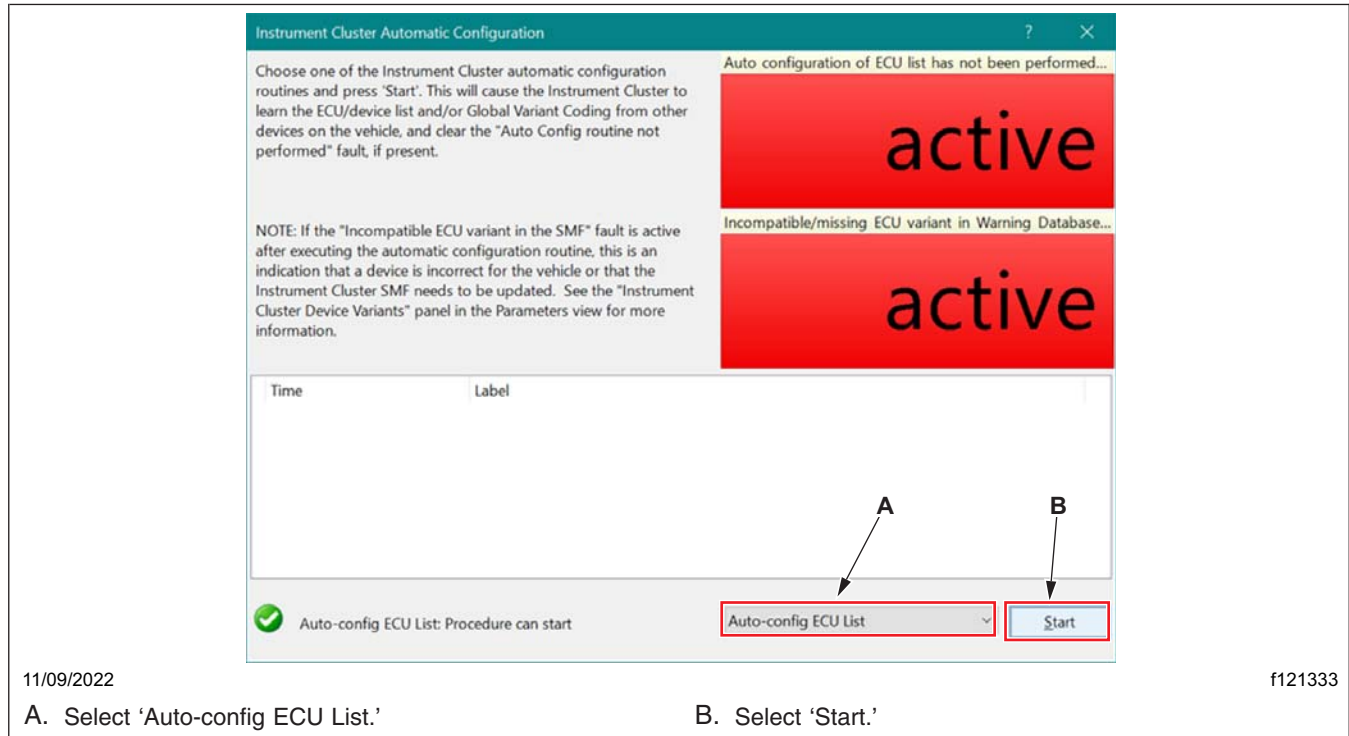

Fig. 15, Instrument Cluster Automatic Configuration Window
24. Verify that 'Auto-config ECU List' is selected. Select 'Start' to begin the automatic configuration of the instrument cluster. See Fig. 15.